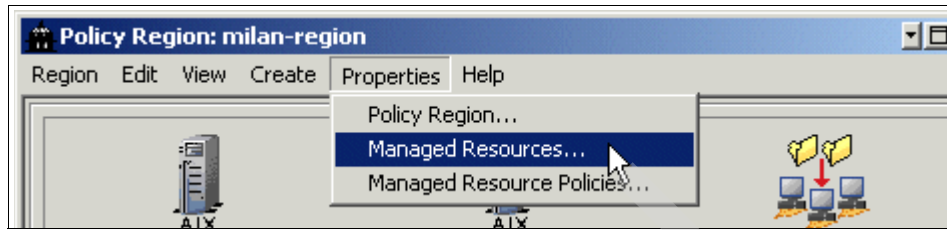

Figure 9-11 Adding Managed Resources
6. Add profile managers as a managed resource for the policy region. Select **Properties** → **Managed Resources...** as shown in Figure 9-11 on page 442.